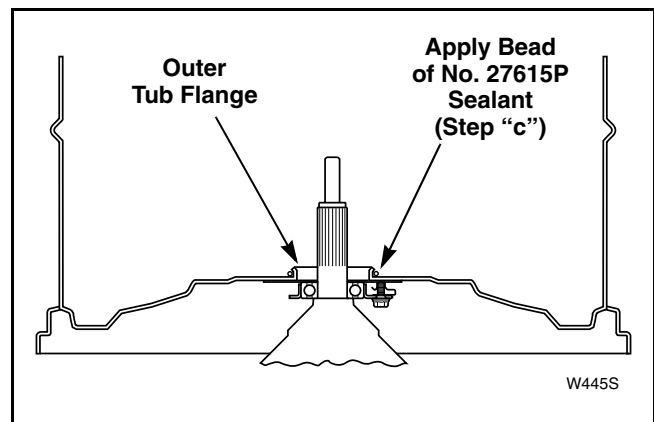

Figure 42
- Apply a small amount of No. 27615P Sealant (3M800) (obtain from local Parts Distributor) around outer surface of tub flange. Refer to *Figure 42*.